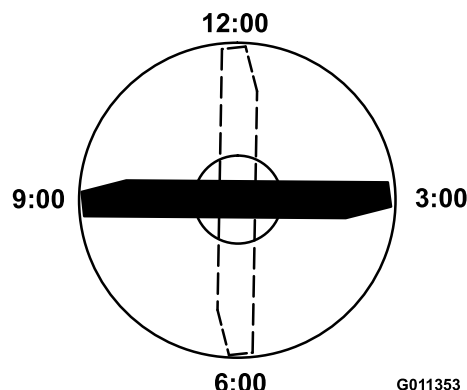

Figure 94
4. Position the cutting edge of the marked end of the blade at 12 o'clock (straight ahead in the direction of mowing) (Figure 94) and measure height from table to cutting edge of blade.
5. Rotate the marked end of the blade to the 3 and 9 o'clock positions (Figure 94) and measure the heights.